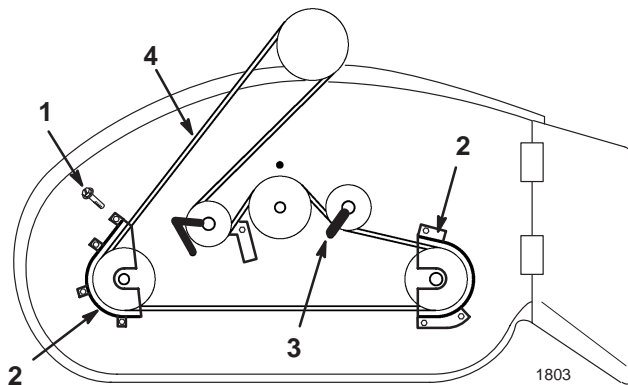

Figure 48
2. Remove the pulley cover mounting screws and pulley covers from both blade pulleys (Fig. 48).
3. Loosen, but do not remove, the idler pulley mounting bolts (Fig. 48).
4. Move the belt guides and remove the belt from the pulleys (Fig. 48).
2. Adjust the belt guide on the idler pulley as shown and tighten the mounting bolt (Fig. 48).
3. Install the left and right pulley covers with the mounting screws (Fig. 48).